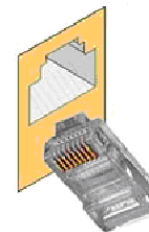

Figure 4:
- An Ethernet cable terminating in an RJ-45 jack (Figure 4, right)